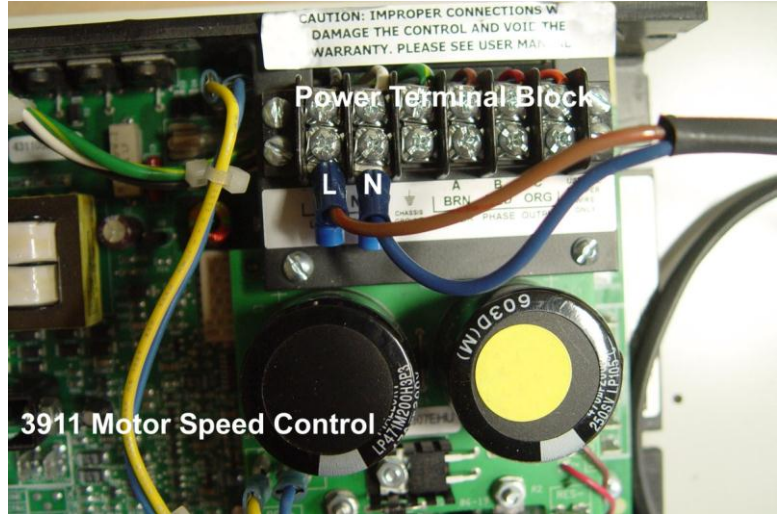

Figure 2 Power connect from 3984 module
- 4.9 Connect power (see Figure 2). Loosen screws on the 3911 Motor Speed board terminal block marked L and N. Slip the brown power wire terminal into the L screw then tighten. Slip the blue wire terminal into the N screw then tighten. Snap the two fuse blocks onto the DIN rail next to the existing fuse block.